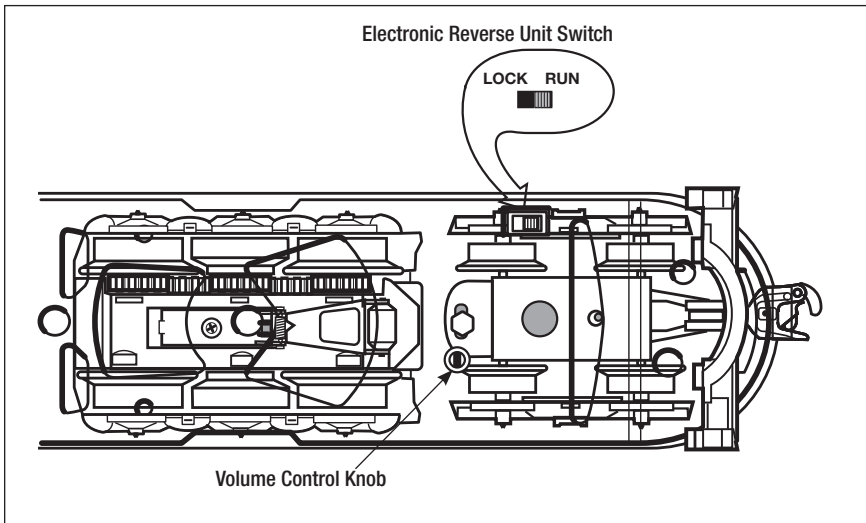

Figure 1. Switch and volume control locations
To “lock” your locomotive into forward operation only, you can deactivate the reverse unit’s sequencing function. Follow the steps below and refer to Figure 1 for the location of the reverse unit switch.
2. Slide the reverse unit switch to the LOCK position. See Figure 1 for the location of this switch. At this point, the locomotive is “locked” into forward direction operation.
**W**hen you power up the locomotive on the track, you will hear the sounds of the idling locomotive. The sounds will increase proportionally with the locomotive's speed. Use the volume control knob to adjust the volume. See Figure 1 on page 5 for the location of this control, which is located on the underside of the locomotive.
To adjust the volume or to silence the electronic horn and bell sounds, use the volume control knob located on the underside of the locomotive. See Figure 1 on page 5 for the location of the Volume Control Knob.